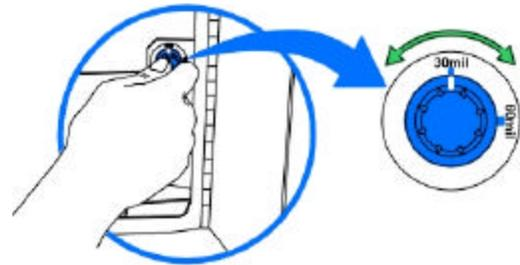

Figure 2-1
3. Adjust this knob to the setting that matches card thickness. See Figure 2-1. *For fine scale changes, see Adjusting the Card Separator Flap in Section 3.1. The adjustment knob controls the position of the printer's internal Card Separator which is designed to accommodate a range of card thickness surrounding the given card thickness settings.*